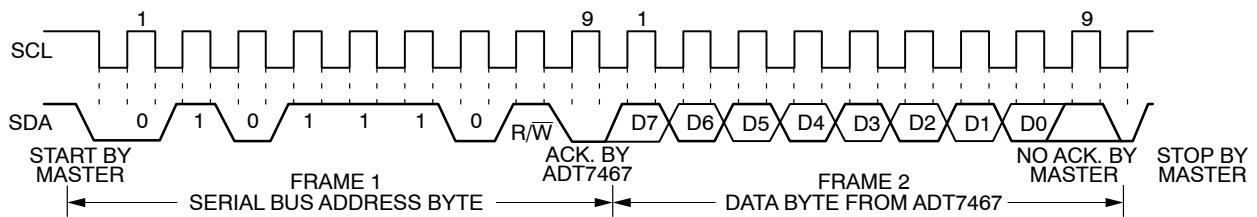

Figure 17. Reading Data from a Previously Selected Register
consisting of the serial bus address and the  $R/\overline{W}$  bit set to 1, followed by the data byte read from the data register. This is shown in Figure 17.
2. If the address pointer register is known to be at the desired address, data can be read from the corresponding data register without first writing to the address pointer register, as shown in Figure 17.